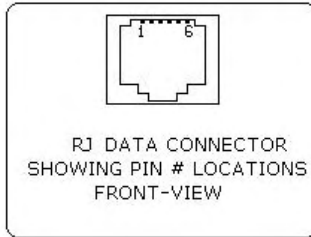

FIGURE 6 – RJ DATA CONNECTOR
- Six connections are provided from the Serial Interface to the host computer. The TABLE 3 below lists the Serial Interface signals and pin outs on the RJ connector and the connector pin locations are shown in FIGURE 6.